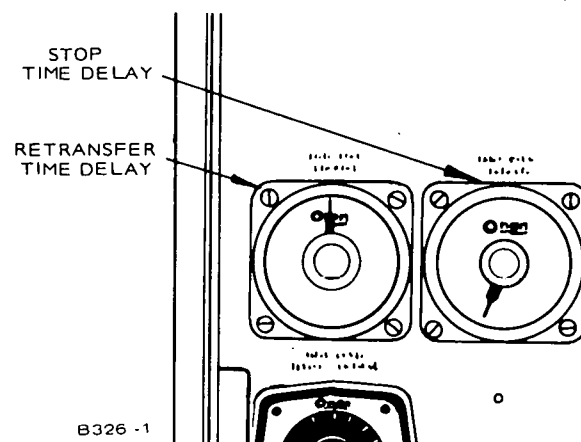

FIGURE 23. STOP AND RETRANSFER TIME DELAY RELAYS
2. Set the time delay by turning the adjustment knob in the center of the delay. See Figure 23.